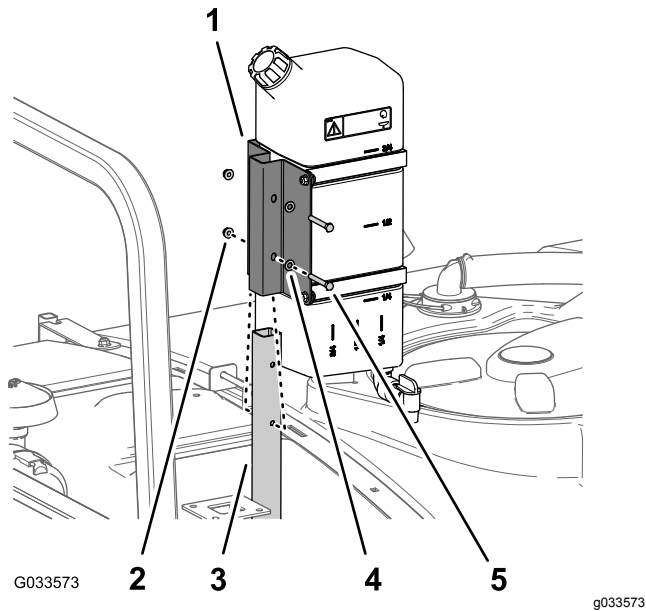

Figure 47
- 1. Assemble the freshwater tank and mount onto the support tube with the 2 bolts (5/16 x 2-1/4 inches) and 2 flange locknuts (5/16 inch) as shown in Figure 47.